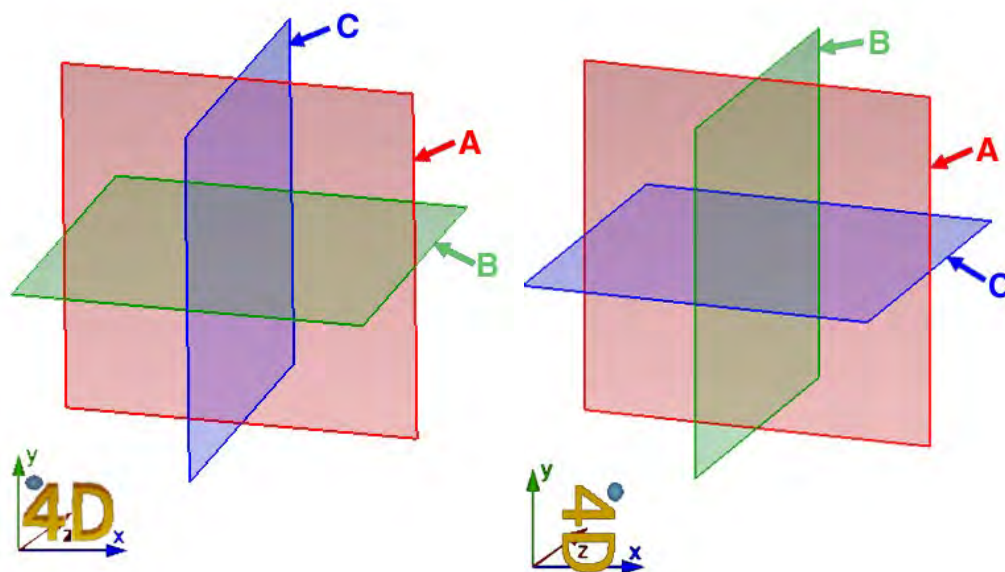

Figure 237: Diagram of layers
Sector box: ROI for an ultrasound image 4D Pro image rendering in Slice B. See Figure 237.
- (3) If the degree of rotation is  $0^\circ$  or  $180^\circ$ , the A/B/C levels correspond to Figure 237 on the left.
- (4) If the degree of rotation is  $90^\circ$  or  $270^\circ$ , the A/B/C levels correspond to the Figure 237 on the right.